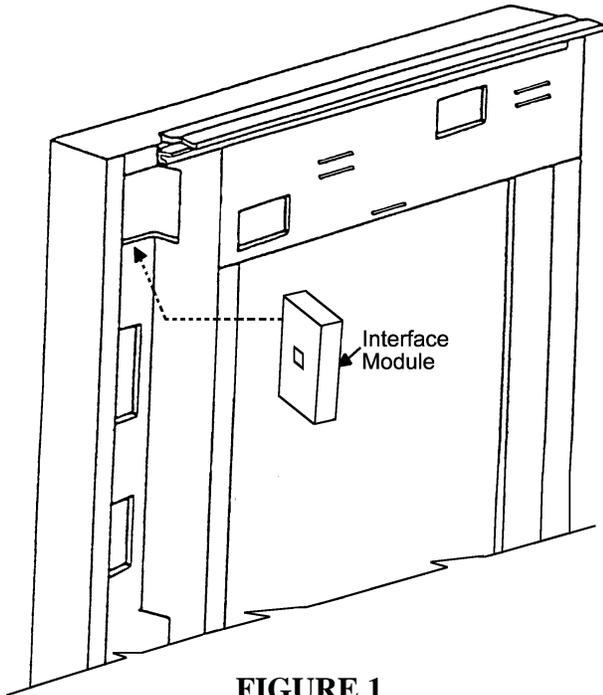

FIGURE 1
2. Using the Velcro strip on the Interface Module, install the module to the vertical bulkhead behind the vender controller. See figure 1, page 2.